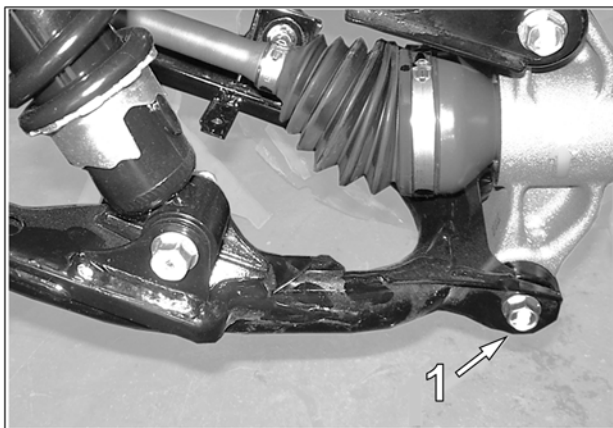

Fig. 6
5. Remove bolt (**1**) that secures lower suspension arm to wheel hub. See Fig. 6